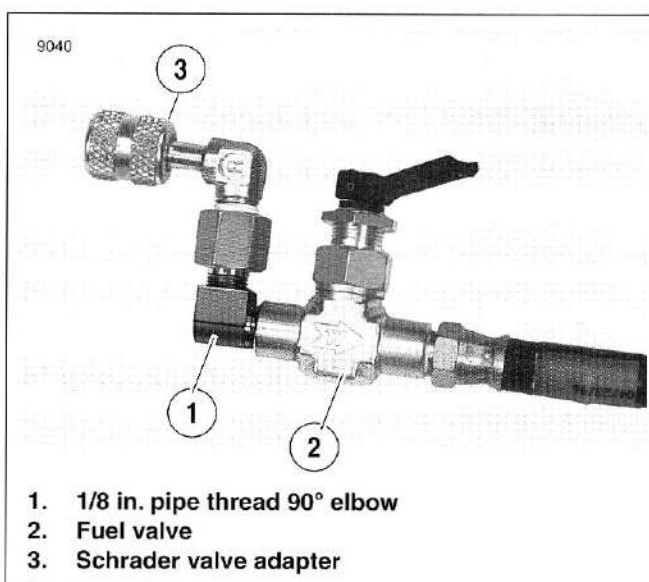

Figure 9-19. Fuel Pressure Gauge Valves
4. See Figure 9-19. Insert a 1/8 in. pipe thread 90° degree (right angle) elbow (1) between the fuel valve (2) and the Schrader valve adapter (3).